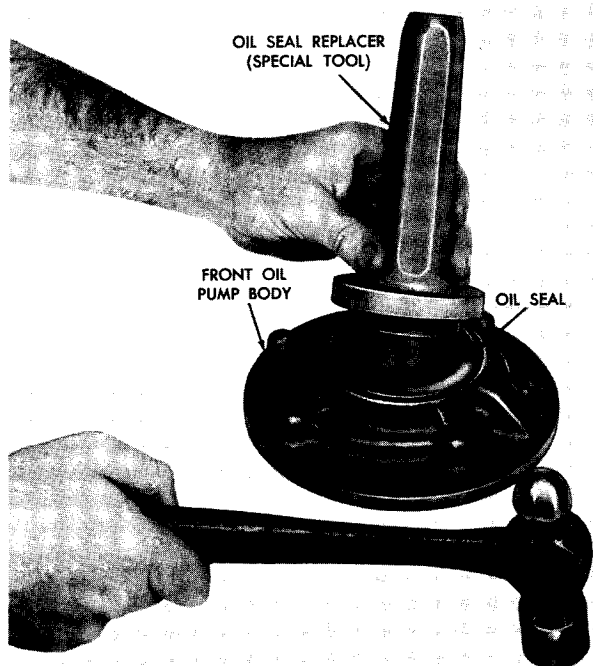
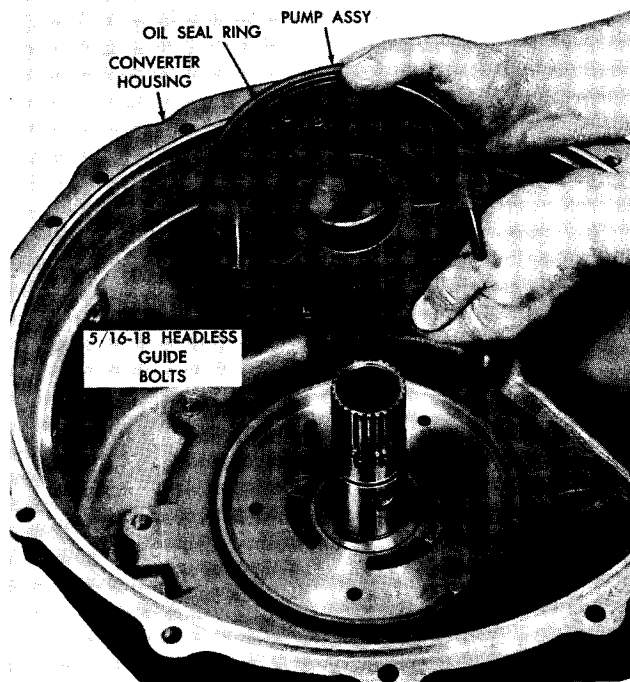

Fig. IX-11 Installing front oil pump seal
Fig. IX-12 Installing front oil pump assembly
(4) If the front oil pump seal was removed from the front oil pump body, coat the outside diameter of the new seal with white lead and, using the front-pump oil seal replacer, install the oil seal in the bore of the front oil pump body (fig. IX-11), seal lip end first.
(5) Install oil pump driven gear 45 and drive gear 44 into oil pump body 46.
(6) Install two 5/16-18 guide bolts in the pump body (fig. IX-12).
(7) Install the front oil pump cover over the guide bolts (fig. IX-12).
(8) Install the oil seal ring around the front oil pump cover outside diameter (fig. IX-12).
(9) Using the guide bolts, guide the front oil pump assembly into the converter housing (fig. IX-12).
(10) Install four bolts 33, four lock washers 34 (and, on aluminum converter housings, four plain washers 35).
(11) Remove the two guide bolts and install the two remaining bolts 33 and washers 34 (and 35, if aluminum housing is used), as in (10), above.